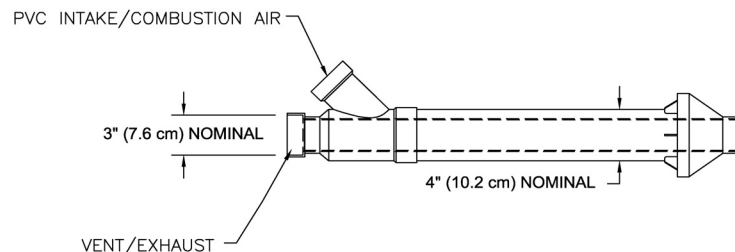

Figure 19. Dimensional Layout of Concentric Vent Kit
If assembly is too short to meet height requirements, the two pipes supplied in the kit may be replaced by using the same diameter pipe. **DO NOT** extend the overall dimension by more than 60 inches (152.4 cm). See Figure 19.
1. Become familiar with coaxial vent kit part no. 239-44069-02 as shown in Figures 19 through 21.